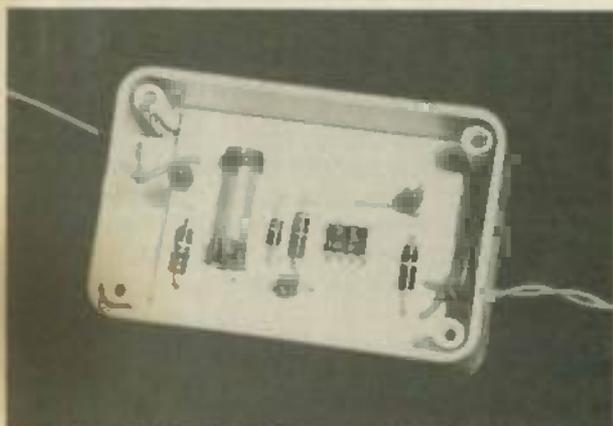

FIG. 3—USE THE RECOMMENDED CABINET, and the PC assembly just drops into place. Giving the wires a twist or two will provide strain relief.
-inch printed circuit board (Fig. 2) which can be tucked into a small plastic "pill box" (Fig. 3). The printed circuit template shown is the minimum size. If desired, you can expand the size of the board to fit larger cabinets, but use the same printed circuit template. For example, a sturdy cabinet was wanted for the unit shown in the photos, so the project was assembled in a Radio Shack "Experimenter's Cabinet," (catalog No. 270-230). (See Fig. 4.) The outer dimensions of the printed circuit board were increased to 1  $\frac{3}{8}$  inch by 2  $\frac{7}{16}$ -inches so the board could drop directly into the cabinet without the need for any mounting screws. Locate the hole for the LED in the top panel.